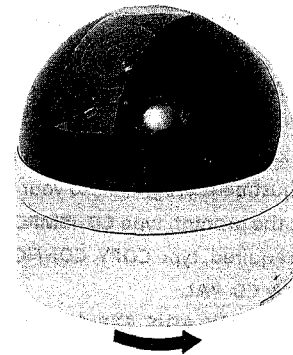

Fig. 2-1
- Turn the dome cover to counterclockwise and remove the dome cover. (Fig. 2-1)